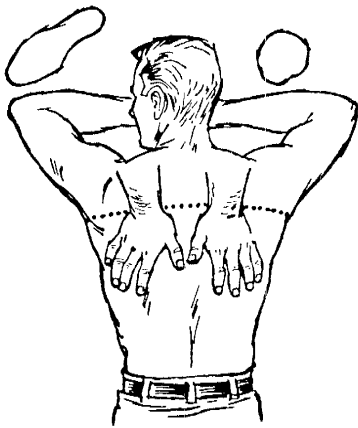

Fig. 16—Position of Victim
- (a) Place the victim in the face-down, prone position. Bend his elbows and place his hands one upon the other. Turn his face to one side, placing the cheek upon the hands. (Fig. 16.)